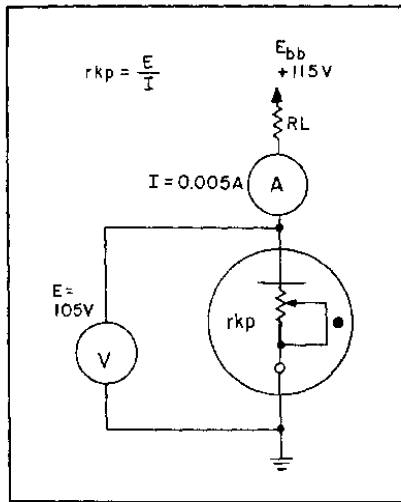

Figure 2A.—Cold-cathode tube operation.
- 2-30. If the source voltage in figure 2A is increased to 150 volts and the ammeter reads 20 milliamperes, what is the resistance ( $r_{kp}$ ) of the tube?